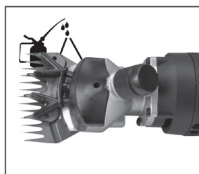

Fig.1
- During the working process, lubricating oil should be added to the tool. When the tool has been running for 1-2 minutes, the blade should be oiled. The amount of lubrication is usually 5-8 droplets. Apply the lubricating oil to the two holes of the tool after about thirty minutes of operation. The amount of lubrication in this case is usually 3-5 drops (Fig. 1).